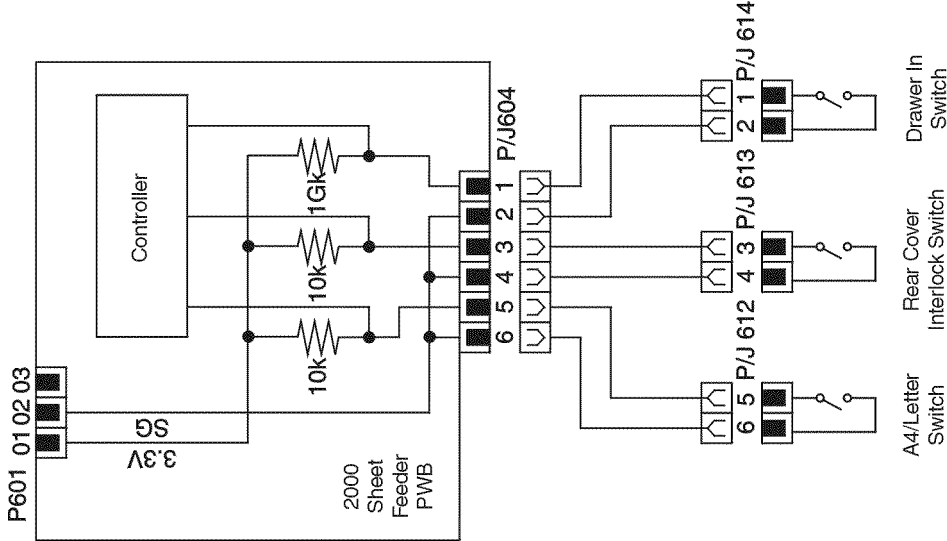

Figure 6 2000 Sheet Feeder PWB/Switches
50. 2000 Sheet Feeder PWB <--> Switches (A4/letter, Rear Cover, and Cassette In) Figure 6